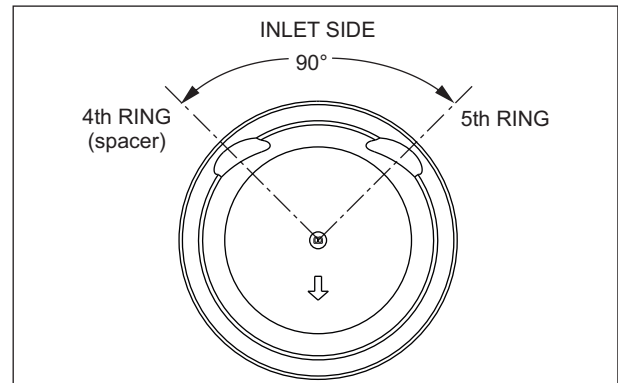

Fig. 3.99
- Align the end gap of 5th ring (oil rail bottom) at 90 degree from the end gap of the fourth ring (spacer) as shown. (Fig. 3.99)